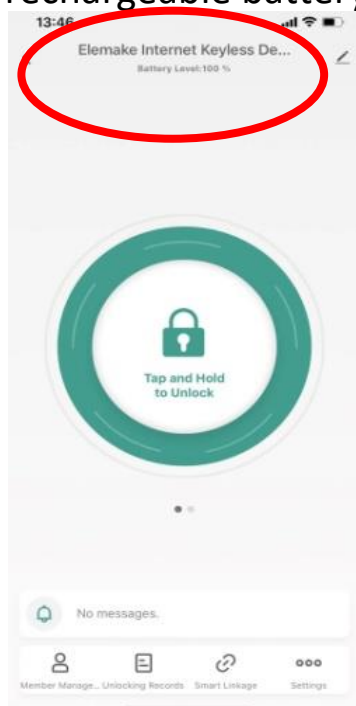

Figure P-7
(7) Battery level monitoring(real time) (See **Figure P-7)**